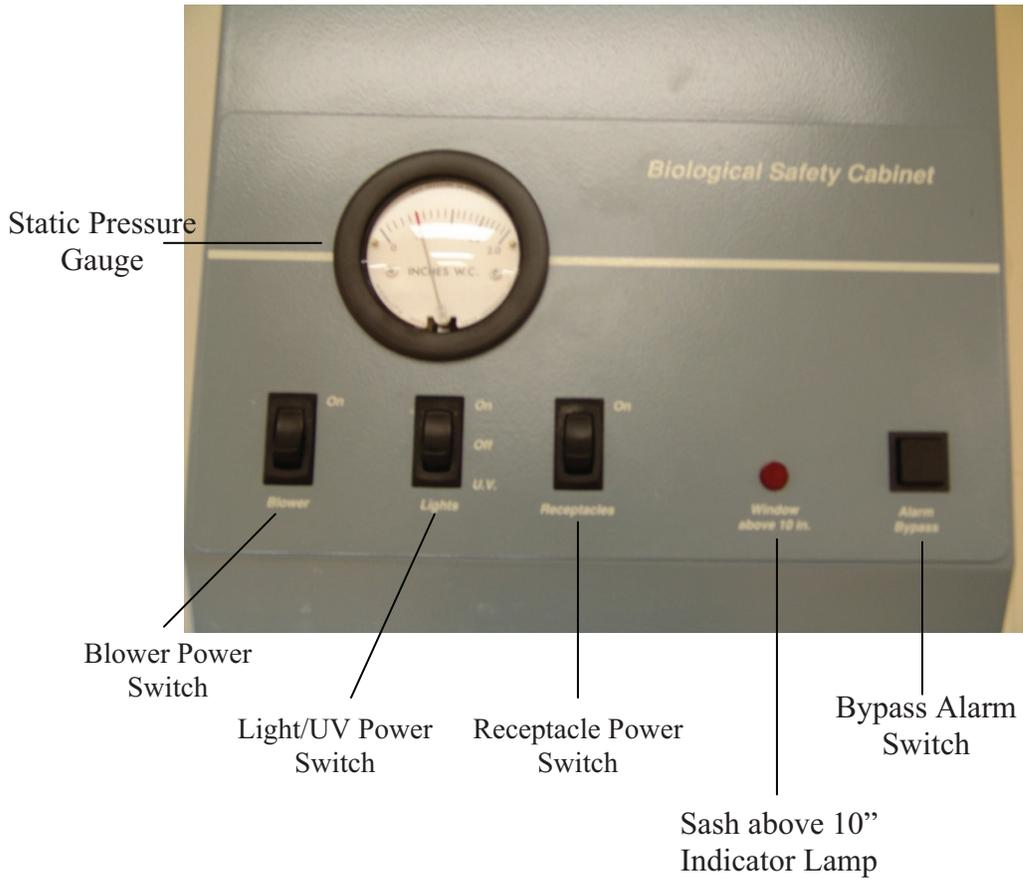

Figure 1: Biological Safety Cabinet Control Panel
- 9.1. Figure 1: Biological Safety Cabinet Control Panel